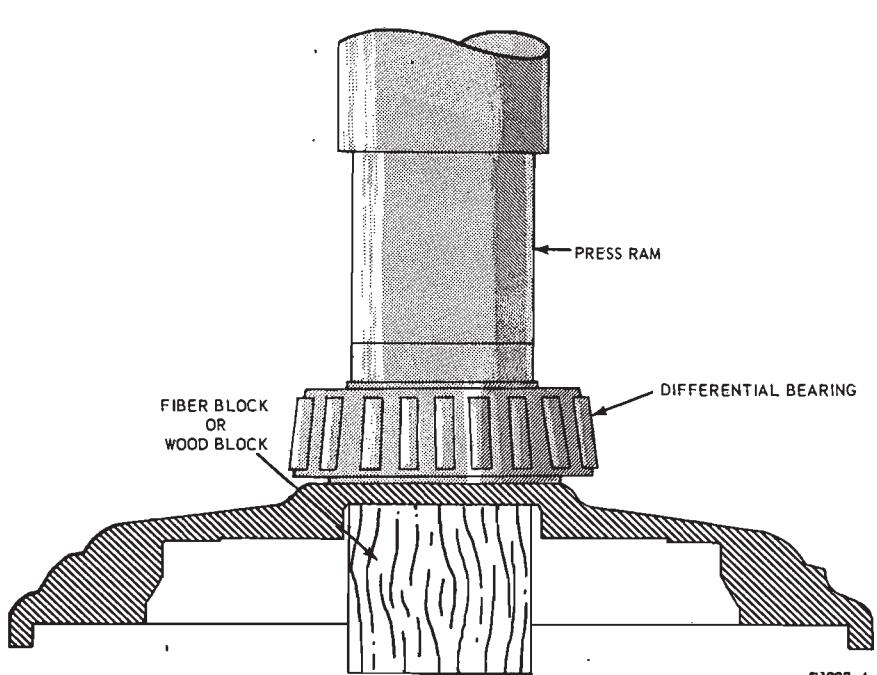

FIG. 20—Installing Differential Bearing—Traction-Lok
b. On the case or cover when disassembled. However, when pressing the bearings on the cover, a block of wood or fiber must be used as shown in Fig. 20 in order to avoid damage to the cover: